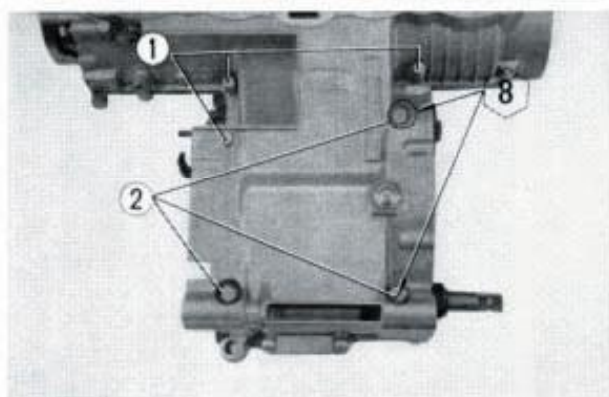

Fig. 153 ① 6 mm bolts
7. Position the upper crankcase on top and install with three each, 6 mm and 8 mm bolts. (Fig. 153)